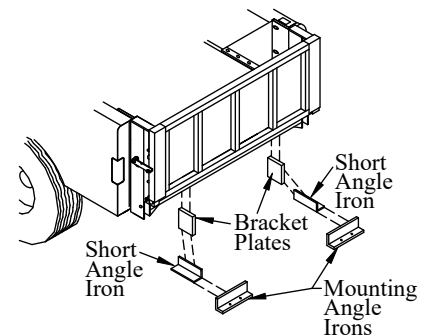

Figure 17: Lower bracket support.
- 2. Bolt** the bracket plates to the truck frame (Figure 17).